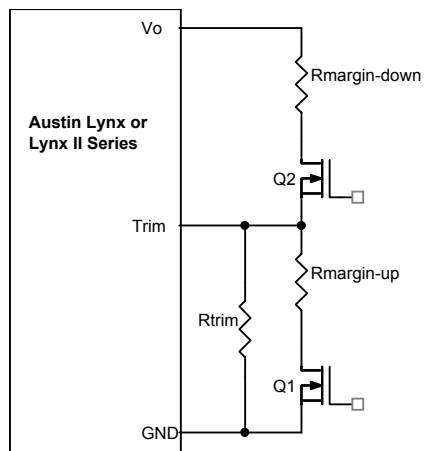

Figure 31. Circuit Configuration for margining Output voltage.
To provide over temperature protection in a fault condition, the unit relies upon the thermal protection feature of the controller IC. The unit will shutdown if the thermal reference point T_{ref2} , (see Figure 31) exceeds 150°C (typical), but the thermal shutdown is not intended as a guarantee that the unit will survive temperatures beyond its rating. The module will automatically restarts after it cools down.
Output voltage margining can be implemented in the Austin MicroLynx™ modules by connecting a resistor, $R_{margin-up}$, from Trim pin to ground pin for margining-up the output voltage and by connecting a resistor, $R_{margin-down}$, from Trim pin to Output pin. Figure 31 shows the circuit configuration for output voltage margining. The Lynx Programming Tool, available at power.tycoelectronics.com under the Design Tools section, also calculates the values of $R_{margin-up}$ and $R_{margin-down}$ for a specific output voltage and % margin. Please consult your local Tyco Field Application Engineer or Account Manager for additional details.